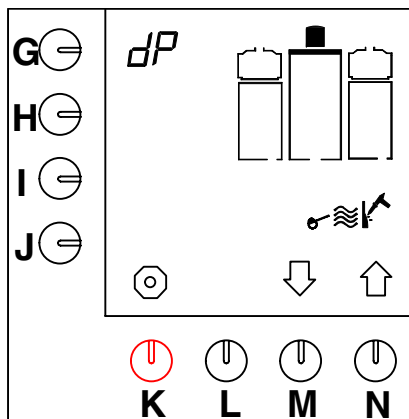

Fig. 18 Starting the descaling programme coffee-making system
- The descaling programme appears on the display (fig.18 ).
- Hold programming key (G.) down until fig. 18 re-appears on the display.